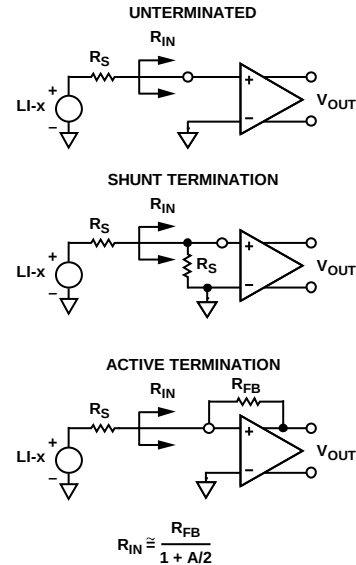

Figure 47. Input Configurations
The short-circuit noise voltage (input-referred noise) is an important limit on system performance. The short-circuit noise voltage for the LNA is 0.75 nV/ $\sqrt{Hz}$  at a gain of 21.3 dB, including the VGA noise at a VGA postamp gain of 27 dB. These measurements, which were taken without a feedback resistor, provide the basis for calculating the input noise and noise figure (NF) performance of the configurations shown in Figure 47.